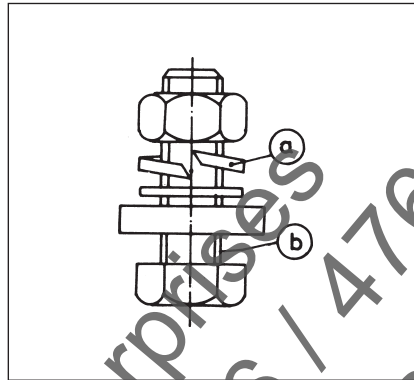

Fig. 5
H. Connection of Main conductors (Refer fig. 5) (Not applicable for 3UC50)
The spring washer (a) is required to lock the screw. The serrated washer (b) facilitates fitting and prevents screw from turning. There is thus no need to hold the screw head. The serrated washer does not reduce the locking effect of the spring washer (Refer figure 5). These are supplied loose in a plastic bag)